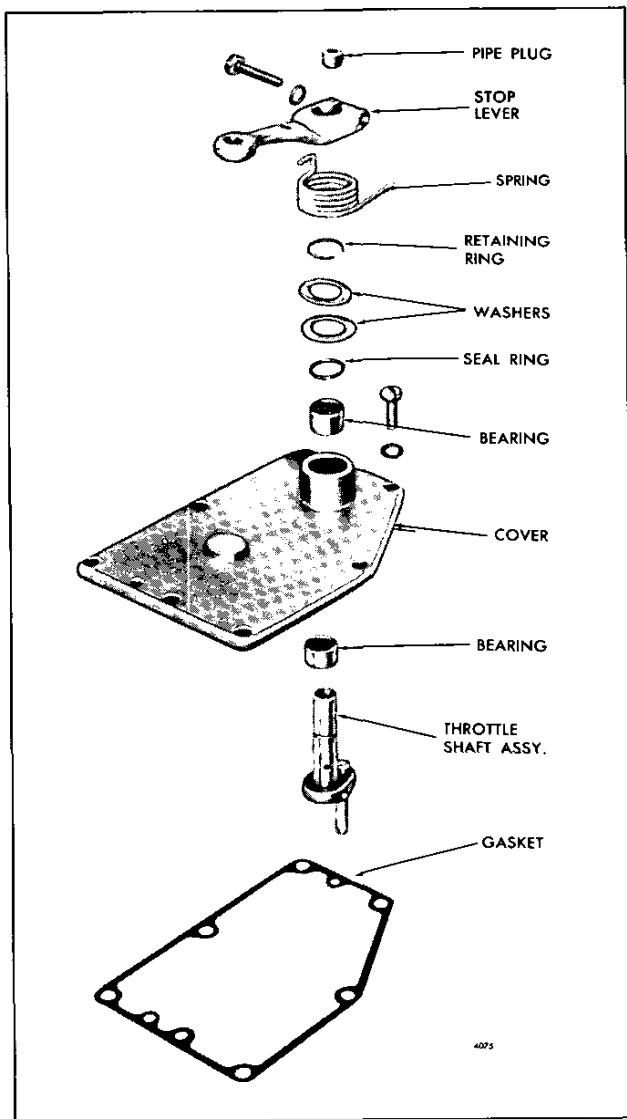

Fig. 4 – Governor Cover Details and Relative Location of Parts
2. Remove the retaining ring and the two seal retaining washers. Withdraw the throttle shaft from the cover (Fig. 4).